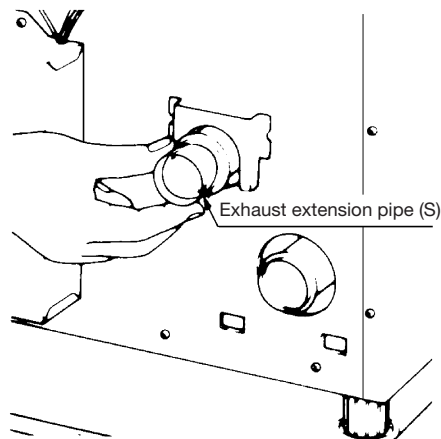

Fig. 11
7. In case the circuit board cover gets in the way of the connection of the standard flue pipe, use the exhaust extension pipe (S) for the exhaust outlet opening of the heater (See Fig. 11).